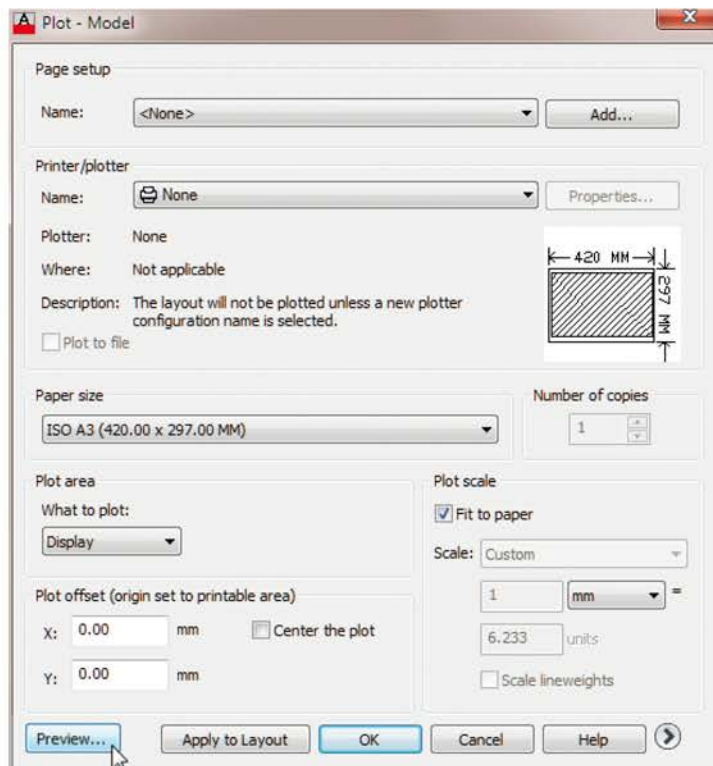

Fig. 16.35 The Plot dialog
2. The **Plot** dialog appears (Fig. 16.35). Set the **Printer/Plotter** to a printer or plotter currently attached to the computer and the **Paper Size** to a paper size to which the printer/plotter is set.